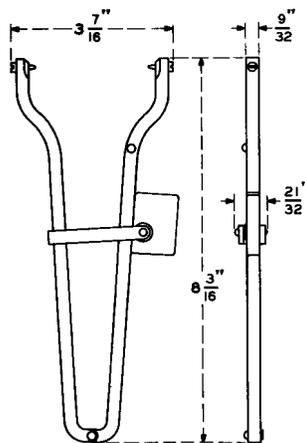

Fig. 4—438A Remover Tool
2.06 **438A:** The 438A remover tool (Fig. 4) is used in removing and replacing transmitter, receiver, and various parts on E1B-type handsets.